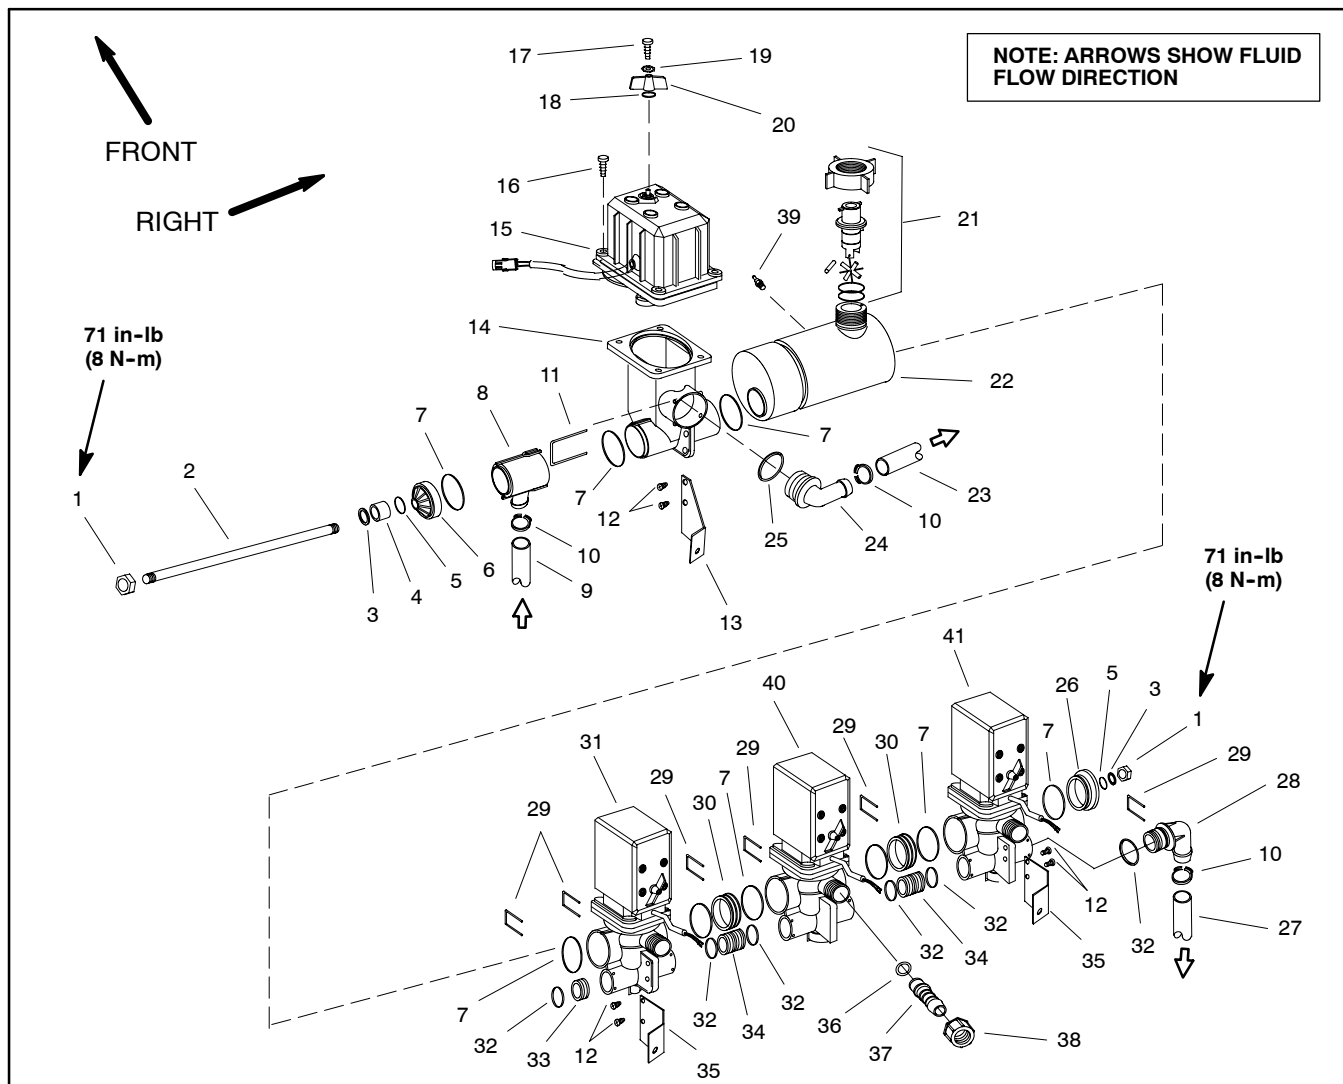
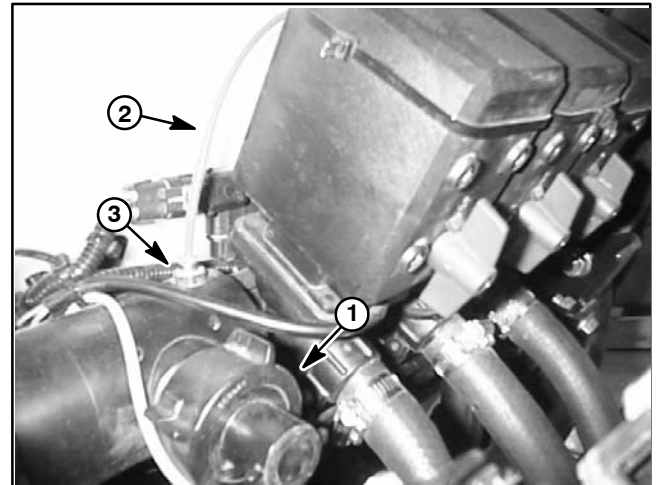

Figure 21
Figure 23
Removal (Fig. 21)
3. Unplug electrical connectors from rate control motor, flowmeter, and three (3) boom valve motors from machine electrical harness.
4. Remove pressure gauge tube from coupler on back of flowmeter housing (Fig. 23).
5. Remove three (3) flange head screws that secure spray control assembly to valve mounting bar. Remove spray control assembly from machine.
6. Remove spray control components as required using Figure 21 as a guide. Discard all removed o-rings and gaskets.
Assembly (Fig. 21)
1. Install spray control components using Figure 21 as a guide. Replace all removed o-rings and gaskets.
2. Before installing rod (Item 2) into assembly, thread nut (item 1) fully onto rod end that has fewer threads. Make sure that o-ring (Item 3) is not damaged during installation over rod. To secure assembly, torque nut 71 in-lb (8 N-m).
3. Position spray control assembly to valve mounting bar and secure with three (3) flange head screws.
5. Install pressure gauge tube to coupler on back of flowmeter housing (Fig. 23).
6. Plug electrical connectors from rate control motor, flowmeter, and three (3) boom valve motors to machine electrical harness.